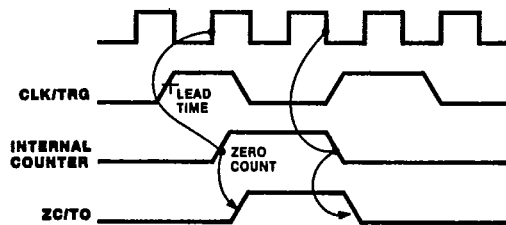

Figure 4. Counter Mode Timing
**Counter Operation.** In the counter mode, the CLK/TRG pulse input decrements the downcounter. The trigger is asynchronous, but the count is synchronized with CLK. For the decrement to occur on the next rising edge of CLK, the trigger edge must precede CLK by a minimum lead time as shown in Figure 4. If the lead time is less than specified, the count is delayed by one clock cycle. The trigger pulse must have a minimum width, and the trigger period must be at least twice the clock period. If the trigger repetition rate is faster than  $1/3$  the clock frequency, then  $T_{sCTR}(Cs)$ , AC Characteristics Specification 26, must be met.